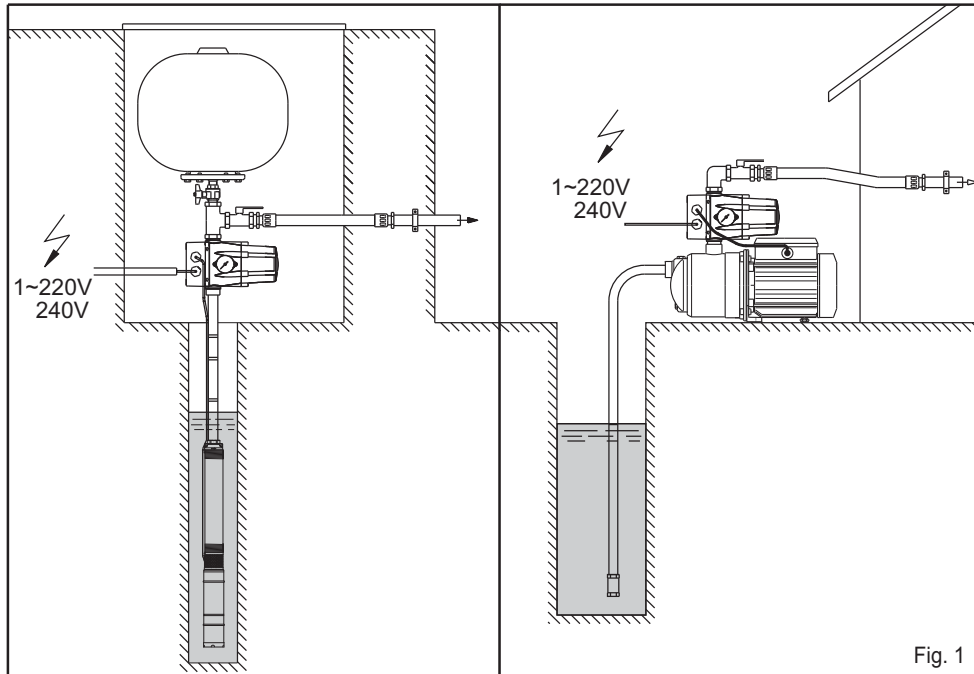

Fig. 1
### COLLEGAMENTO IDRAULICO (fig.1)
- Max. current value: 30 (16) A (2,2 kW)
**HYDRAULIC CONNECTION (fig.1)**